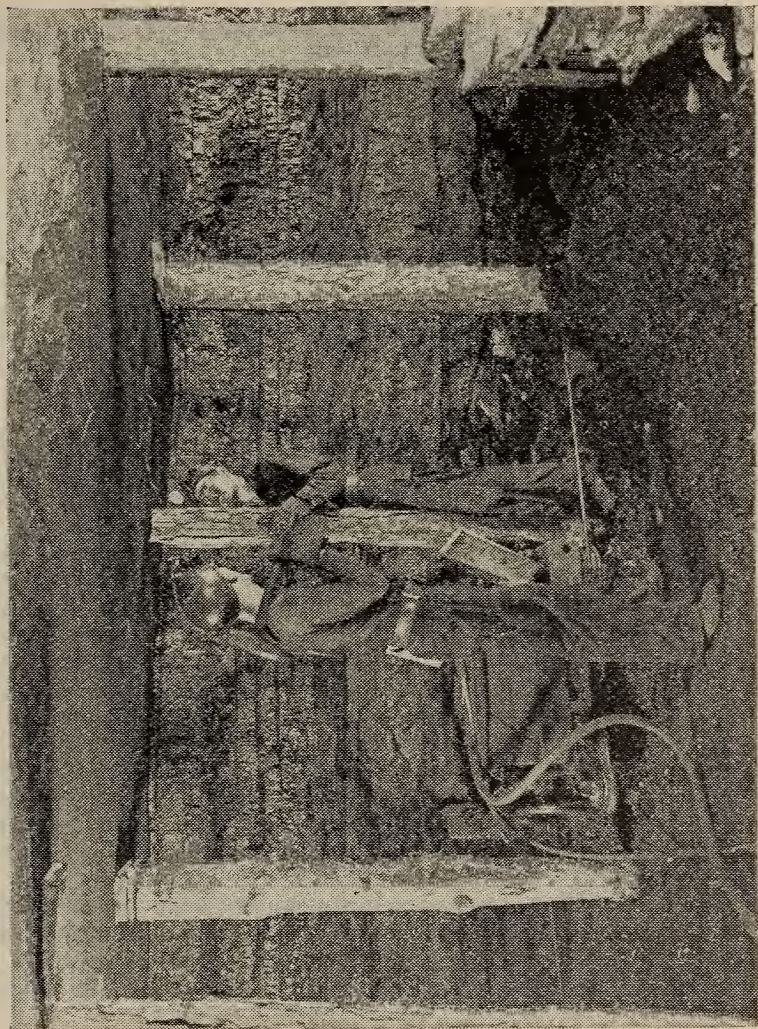

FIGURE 11.—When safety posts are removed to permit movement of the mining machine across the face, they should be replaced promptly.
A. As soon as possible after the loading machine has loaded the coal and before other employees, except timbermen, enter the place. This will protect the cutting-machine operators, drillers, "bug-dust" shovelers, tracklayers, or other employees who may have to work in the place before the face is blasted again. (See fig. 11.)